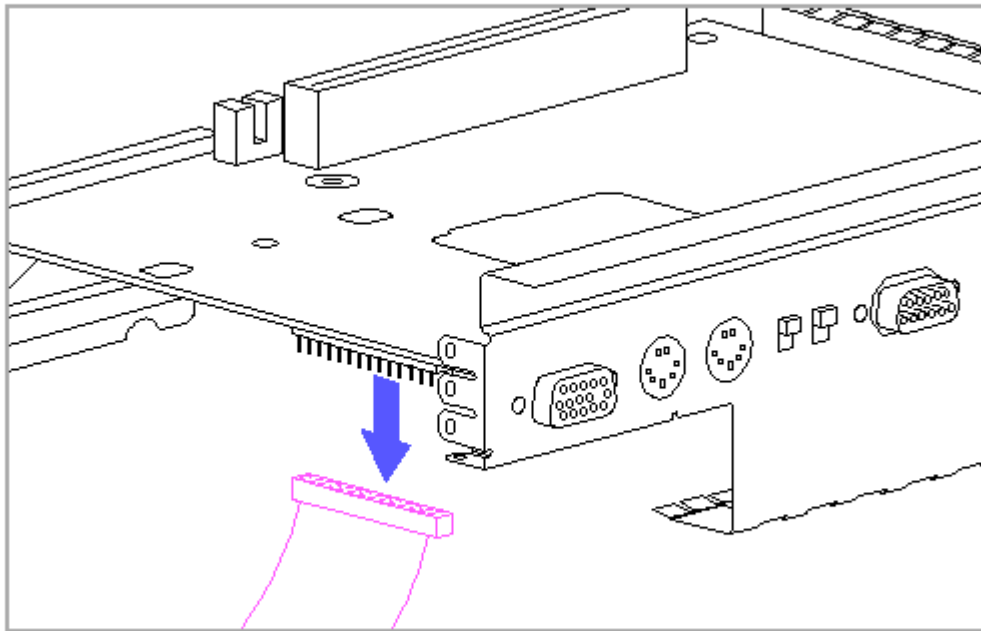

Figure 9-26. Disconnecting the Harness Extension Cable from the System Board
3. Disconnect the harness extension cable from the system board (Figure 9-26).